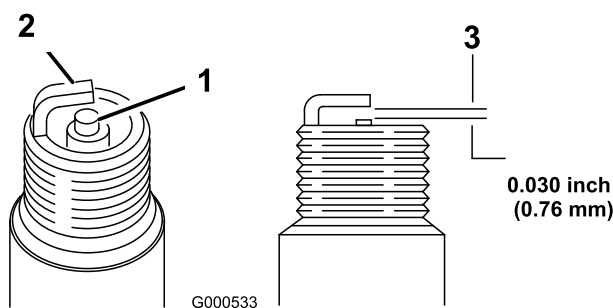

Figure 38
1. Look at the center of the spark plug (Figure 38). If you see light brown or gray on the insulator, the engine is operating properly. A black coating on the insulator usually means the air cleaner is dirty.
2. Check the gap between the center and side electrodes (Figure 38). Bend the side electrode (Figure 38) if the gap is not correct.